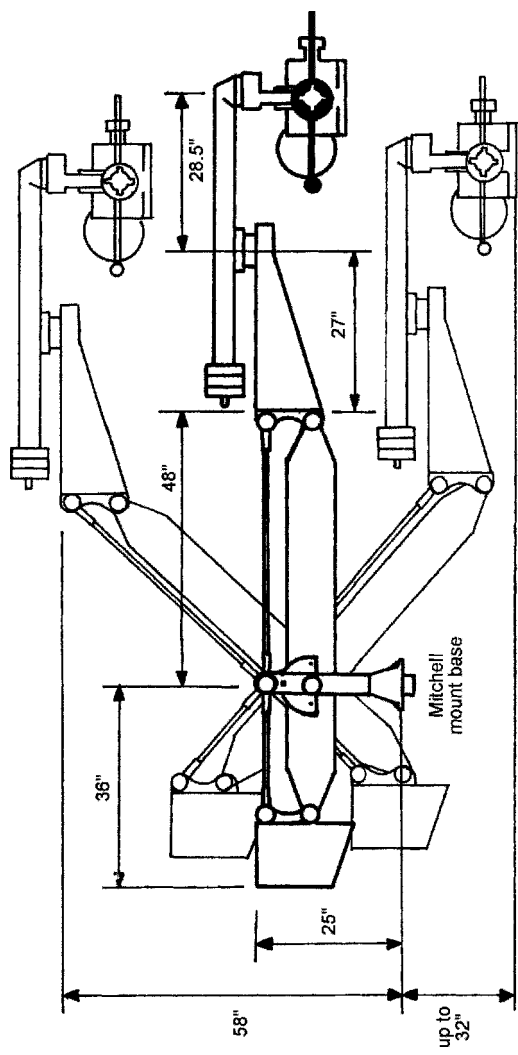

Figure 10.12 Weaver-Steadman Five-axis Fluid Crane.
- **Weaver-Steadman Five-Axis Fluid Crane** (Figure 10.12)